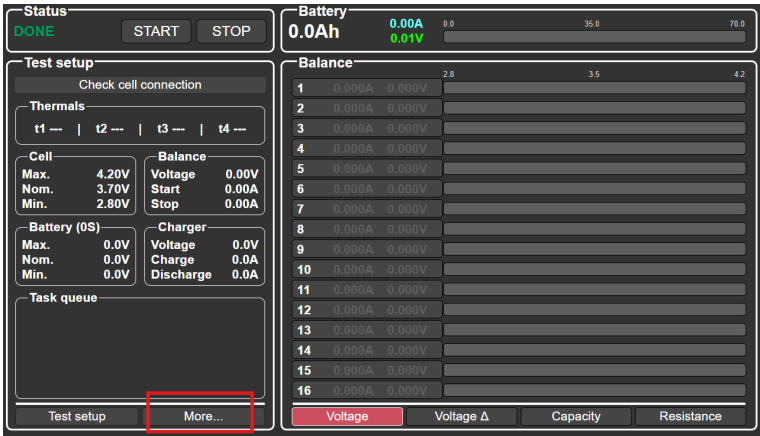

Figure 30
- 1. In the main menu of the tester, press the “More...” button (see Fig. 30).